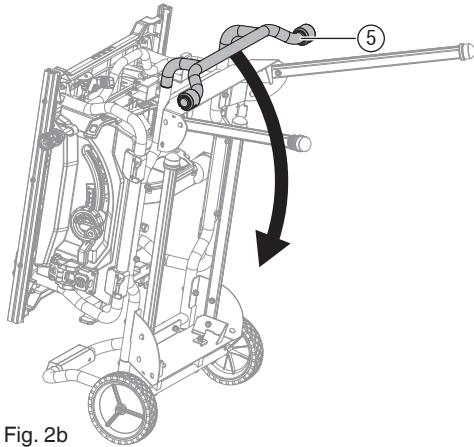

Fig. 2b
- Grasp the handle I (5) firmly and slowly tilt saw downward until the saw is balanced on the ground. (Fig. 2b-2c)